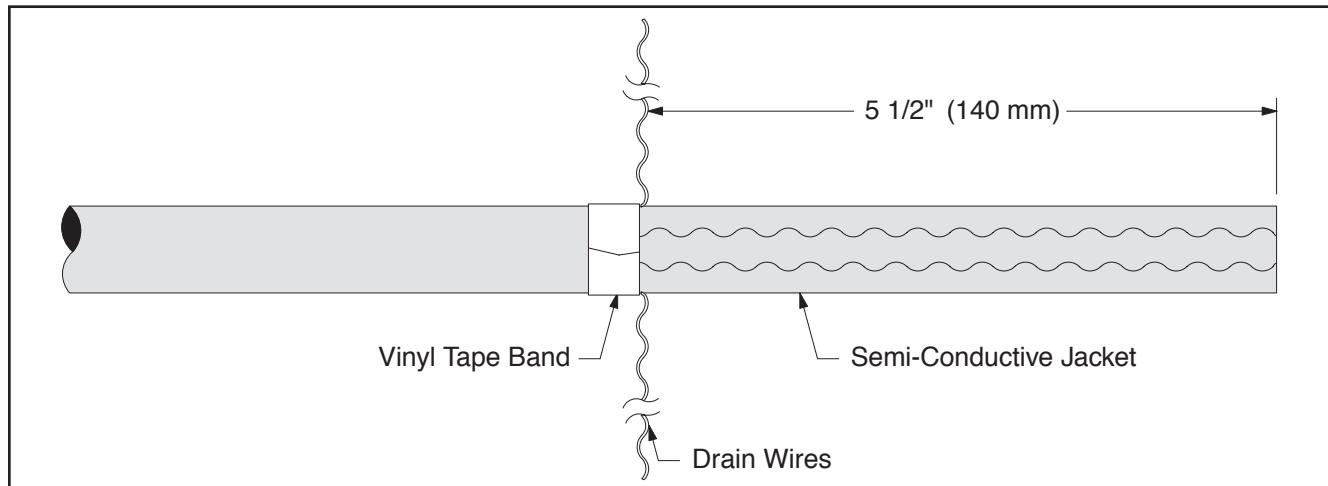

Figure 3
- b. Wrap a vinyl tape band around cable jacket at a point 5 1/2" (140 mm) from cable end and remove drain wires from semi-con jacket to the leading edge of applied vinyl tape band (*Figure 3*).